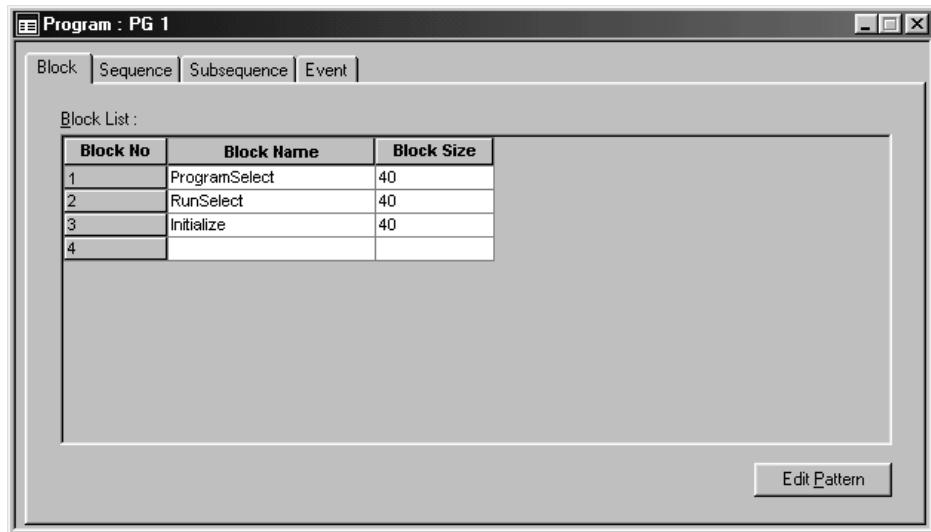

Figure 5–10: Program dialog box
2. Select the Sequence tab in the Program window. Your display should look similar to Figure 5–11 on page 5–14.